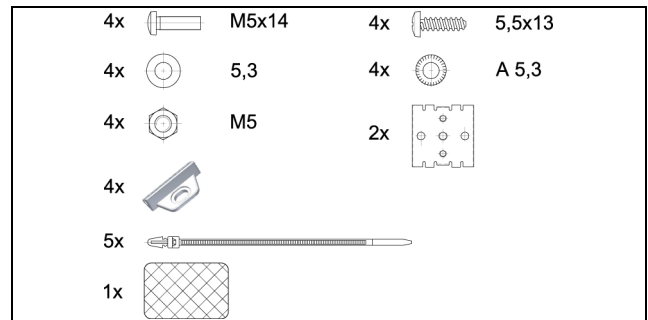

Fig. 1: Accompanying accessories
- Accessories provided (see fig. 1)